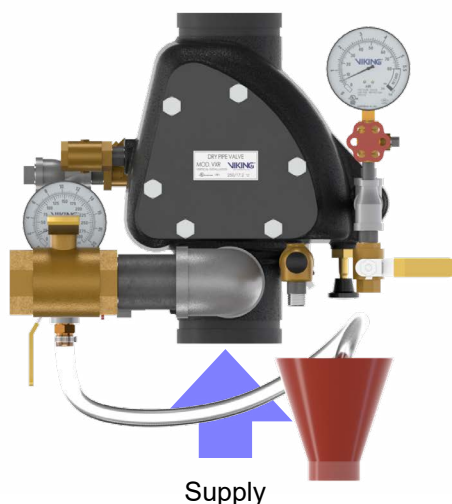

Figure 3: Typical Installation with Trim (4" Shown)
- The Model VXR Dry Valve must be installed in the vertical position as shown in Figure 3.